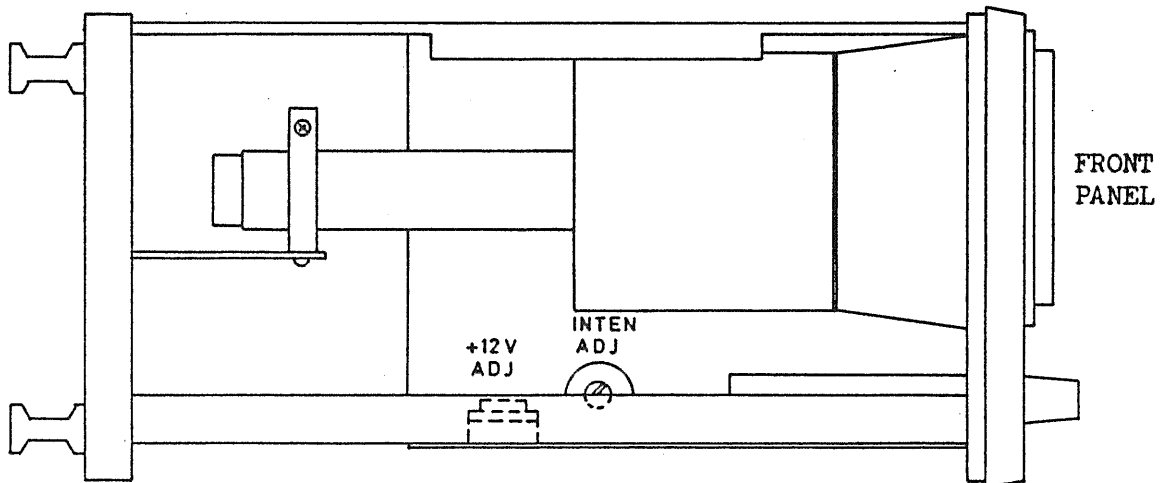

Fig. 24
- (1) Set the TIME/DIV switch in the 1 msec position and display the trace on the CRT screen.
- (2) Set the white mark of the INTEN knob to the left side (9 o'clock) position and so adjust the INTEN ADJ control (see Fig. 24) that the trace is displayed on the screen with a barely discernible intensity.